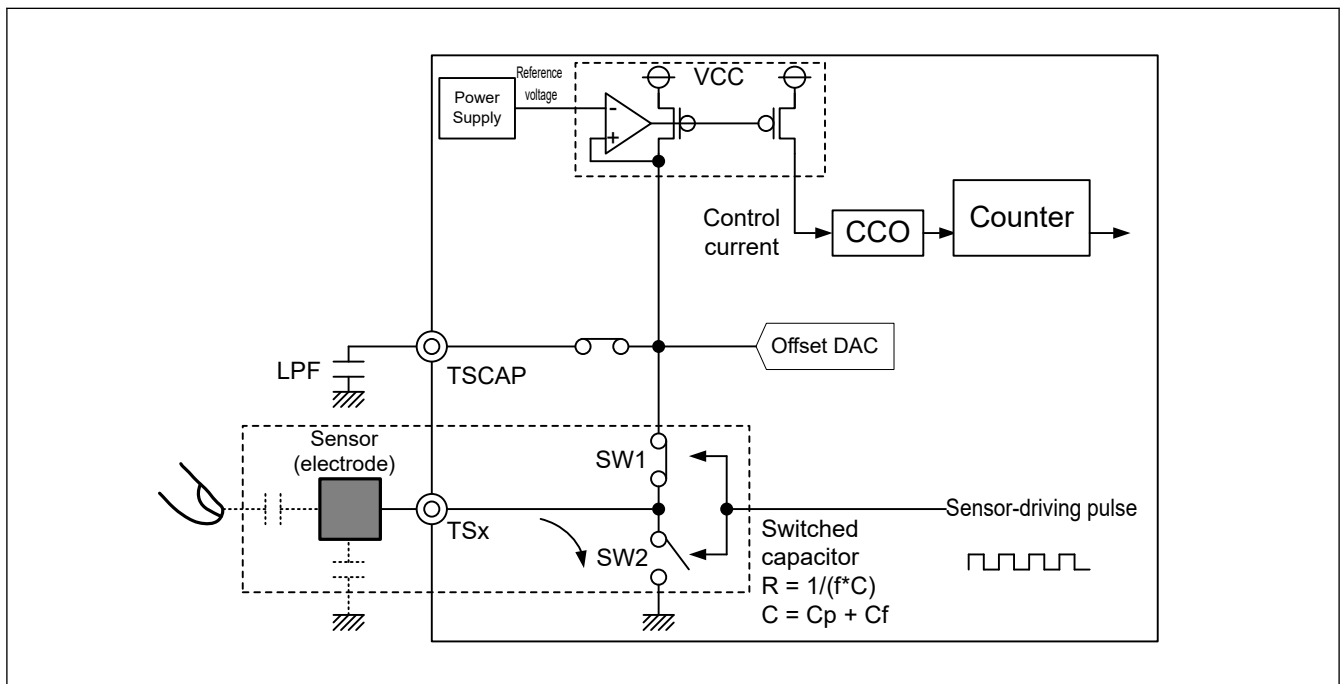

Figure 34.6 Self-capacitance discharging operation
2. The charged capacitance is discharged by turning SW1 off and SW2 on (Figure 34.6).